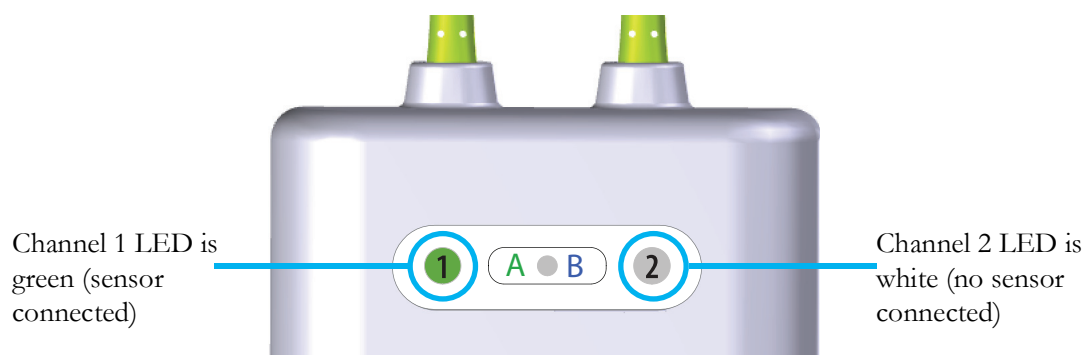

Figure 12-14 Connecting a sensor to the preamp cable
- 6 Verify that the channel status LED indicator on the ForeSight Elite module (FSM) changes from white to green when the sensor is fully connected. See figure 12-14.